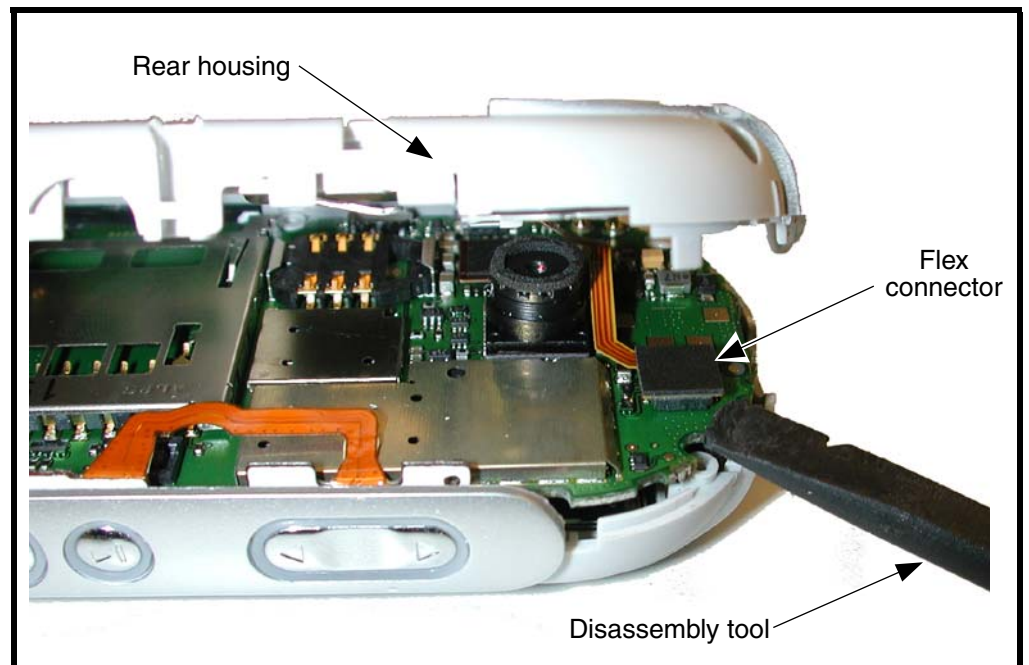

Figure 13. Removing the rear housing
3. Use the disassembly tool to unseat the flex connector on the transceiver PC board under the rear housing (see Figure 13).